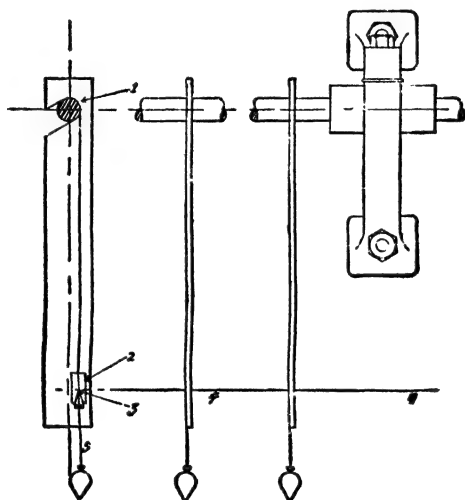

Fig. 37.
**NOTE.**—It would be worth while to know how many and to what odd “calls” the average engineer is compelled to respond outside his special position and to none more frequently than to oversee and direct the “lining up” of some unruly shaft which will not run true—hence, this device is shown in Fig. 37